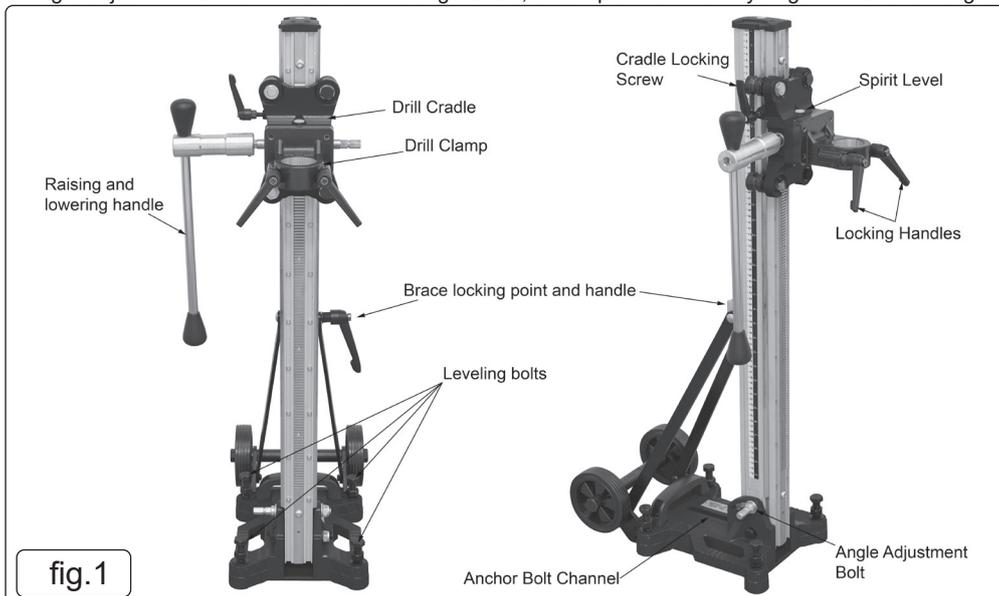

fig. 1
4.1. ATTACHING DRILL TO STAND REF. FIG 1
- 4.1.1. The drill is attached to the stand using the drill clamp (fig.1)